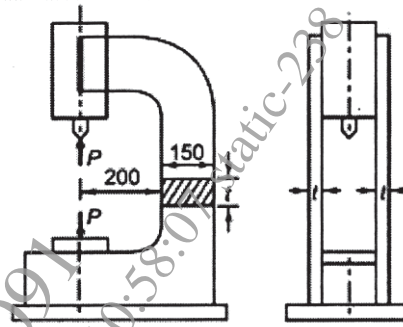

Figure 1
- b) The frame of a hydraulic press consisting of two identical steel plates is shown in Figure 1, The maximum force P acting on the frame is 20KN. The plates are made of steel 45C8 with tensile yield strength of 380N/mm^2 . The FOS is 2.5. Determine Plate thickness. [10]